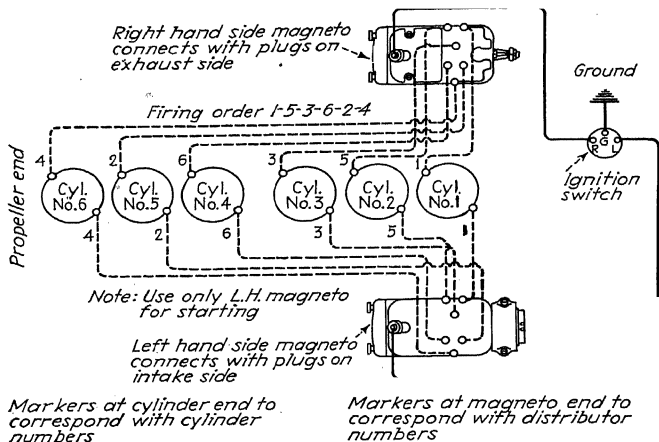

FIG. 7.—Wiring diagram of Ranger engine.
**Magneto Wiring.**—For wiring arrangement refer to the wiring diagram, Fig. 7; use ignition cable for all connections. The ground terminal *must* be connected to the engine crankcase.